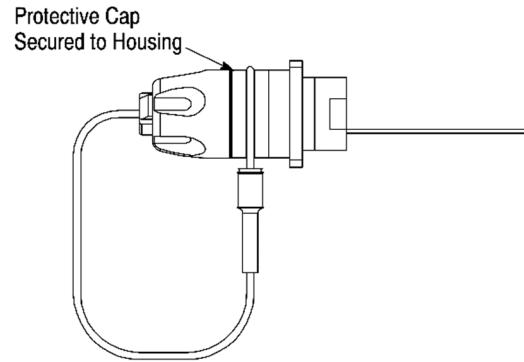

Figure 11
14. Apply several drops of the threadlocker to the threads of the housing. See Figure 11, Detail A.
15. Thread the locking nut onto the housing. Using the 16-mm U-wrench, tighten the locking nut to a torque between 4 and 5 N·m. See Figure 11, Detail A.
17. Thread the protective cap onto the housing. Hand-tighten the cap. See Figure 11, Detail B.